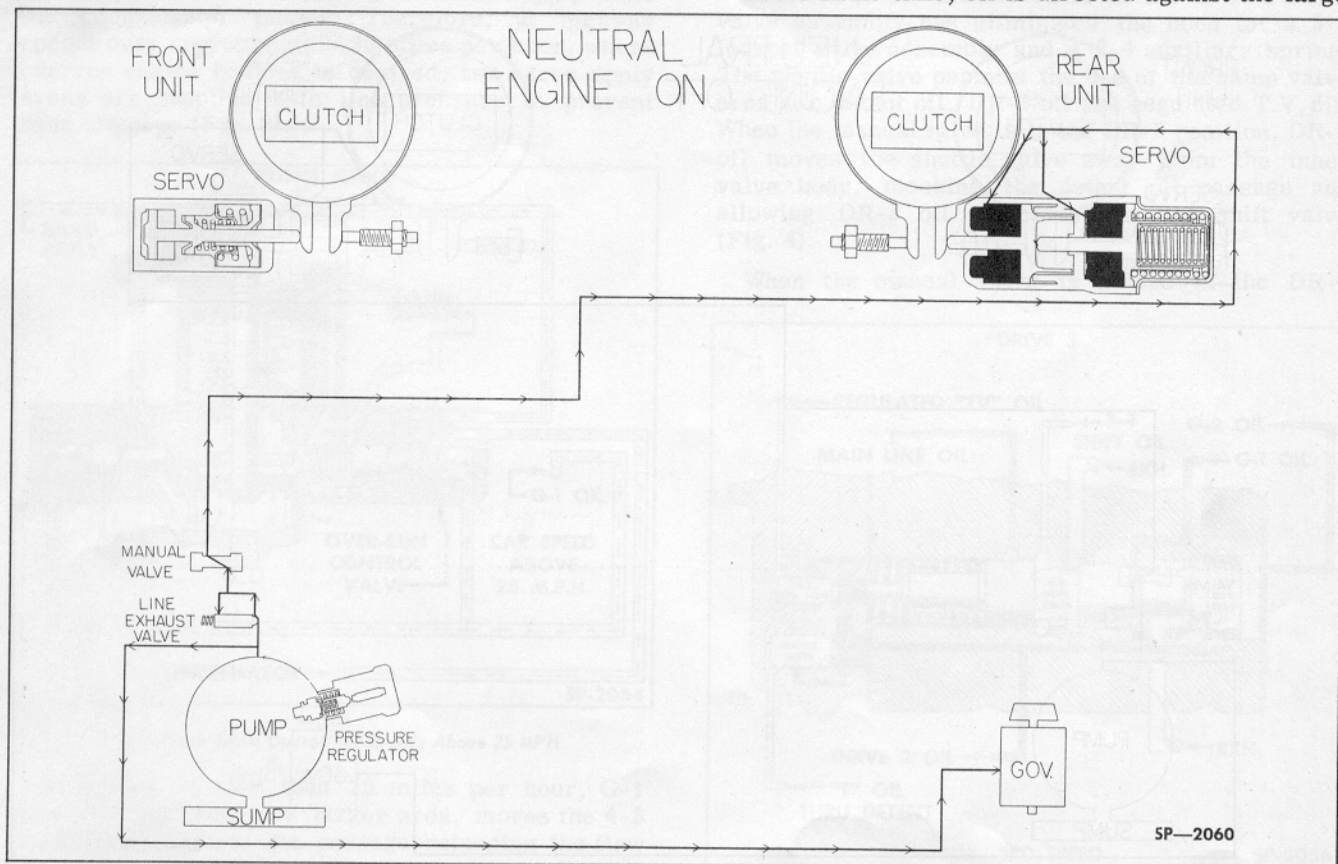

Fig. 8—Hydraulic Action in Neutral (Engine Running)
When the manual valve is in the neutral (N) position and the engine is running, oil under pressure is directed to the main line exhaust valve, now located in the front servo valve body, to close the valve against spring pressure. Front servo band apply oil is cut off by the manual valve. Therefore, the front unit band and clutch are in the released position. Oil is also directed by the manual valve to the rear servo to release the rear band. The rear clutch is also released by the clutch release springs. With both bands and both clutches released the transmission is in neutral (Fig. 8).